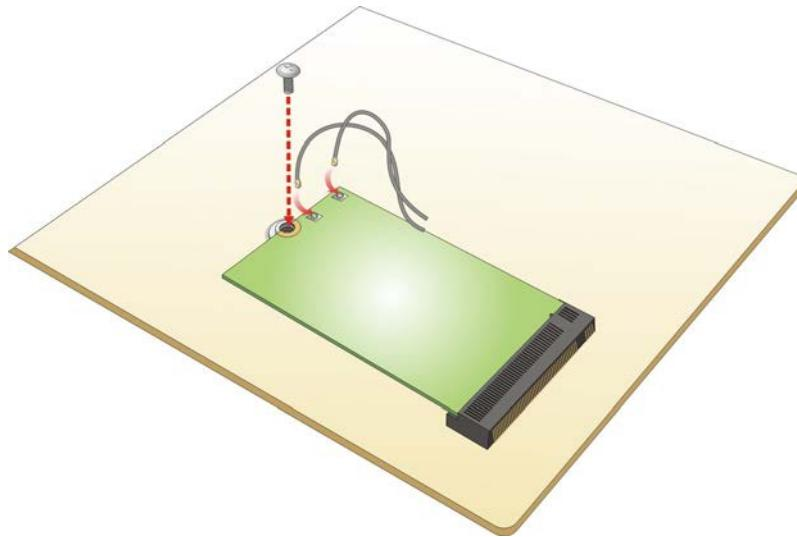

Figure 3-9: Securing WLAN Module and Connecting RF Cables
Step 5: Secure the WLAN module. Secure the WLAN module with the retention screw previously removed (**Figure 3-9**).
Step 6: Connect the two RF cables to the antenna connectors on the WLAN module (**Figure 3-9**).